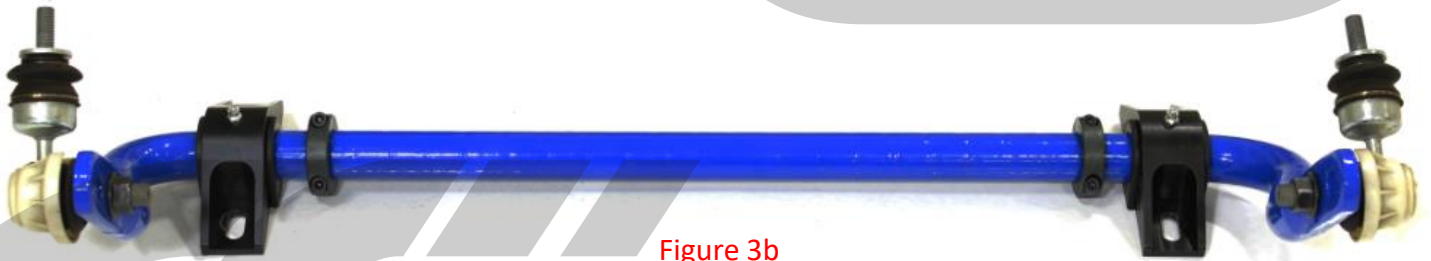
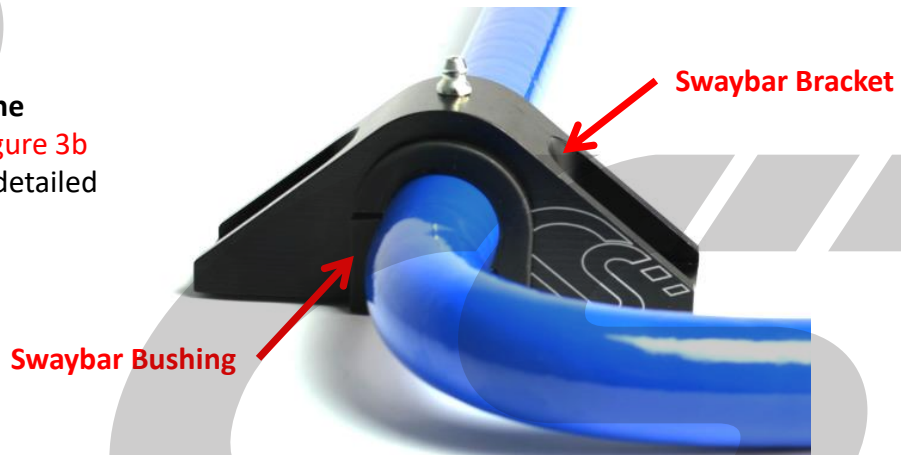
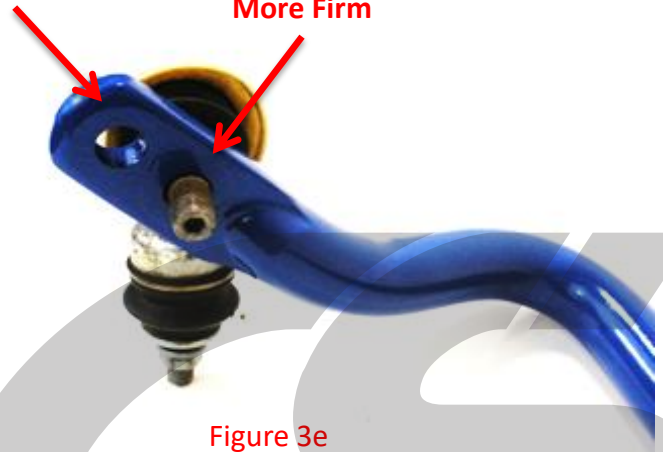

Figure 3b
Figure 3c
Figure 3e
- b) Assemble the sway bar brackets on the CorkSport Rear Sway bar. Refer to Figure 3b for final assembly and Figure 3c for a detailed picture.
- c) Assemble the sway bar collars on the CorkSport Rear Sway bar. Refer to **Figure 3b** for final assembly and **Figure 3d** for a detailed picture.
- d) Assemble the factory endlink onto the CorkSport Rear Sway bar. There are two setting. We suggest starting on the stiffest setting as shown in **Figure 3e**. Final assembly shown in **Figure 3b**.